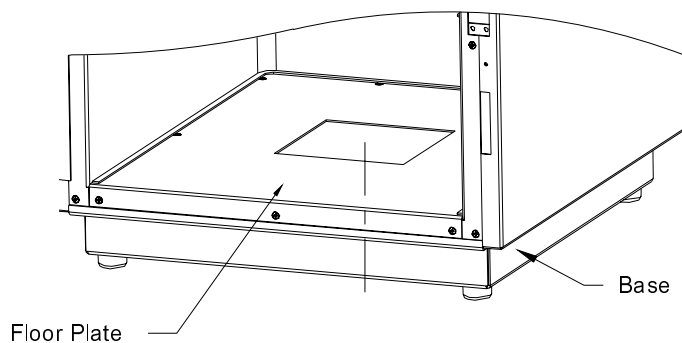

Figure 4-9
The optional camera and its components are located in the base of the MX-20. See Figures 4-9 and 4-10. If replacement becomes necessary, proceed as follows:
2. Open the door and locate the floor plate as shown in Figure 4-9. Remove screws holding the floor plate to the base.
Different cameras according to System Description in Section 1 are used. All cameras mount under the Floor Plate shown in Figure 4-9 and 4-11a-c. To replace the camera, proceed as follows: